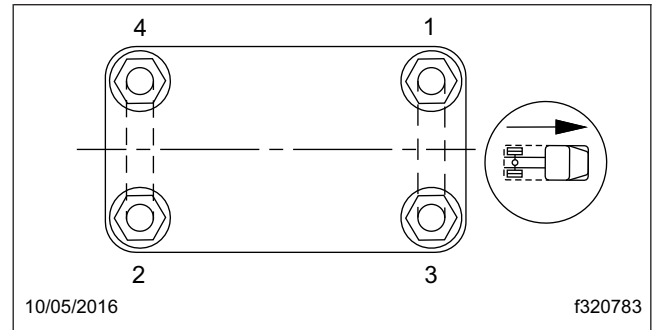

Fig. 3, Tightening Pattern for U-Bolt High Nuts
2. Check the U-bolt torque. See Table 6 for U-bolt torque specifications. Tighten in a diagonal pattern as shown in Fig. 3. Set a click-type torque wrench to the mid-point torque value for the fastener being checked. Turn the wrench in a clockwise motion (looking up) until the torque wrench clicks, then release pressure on the torque wrench, and turn the wrench again until it clicks. If the nut turns on the second application, the bolt is stretching and must be replaced. See **Group 32** of the *Western Star 47X and 49X*
* Tighten in a diagonal pattern as shown in Fig. 3.